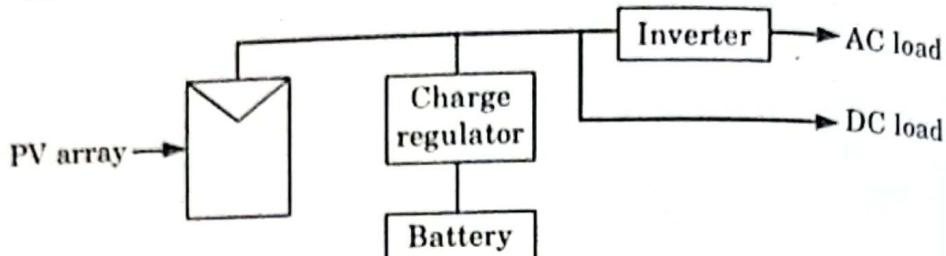

Fig. 1.13.1. Block diagram of solar photovoltaic system.
5. Batteries are charged during the day and supply power to loads as shown in Fig. 1.13.1.